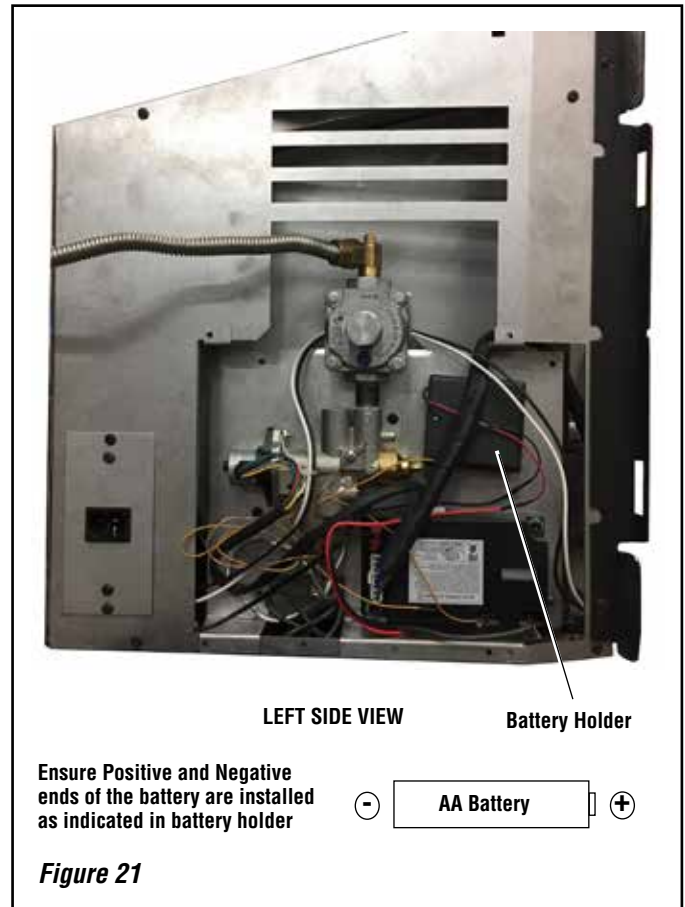

Figure 21
This appliance is equipped with a battery backup system. It requires four (4) "AA" batteries to power the appliance (without the blower) during a power outage. Install the batteries into the battery holder per instructions in **Figure 21**.